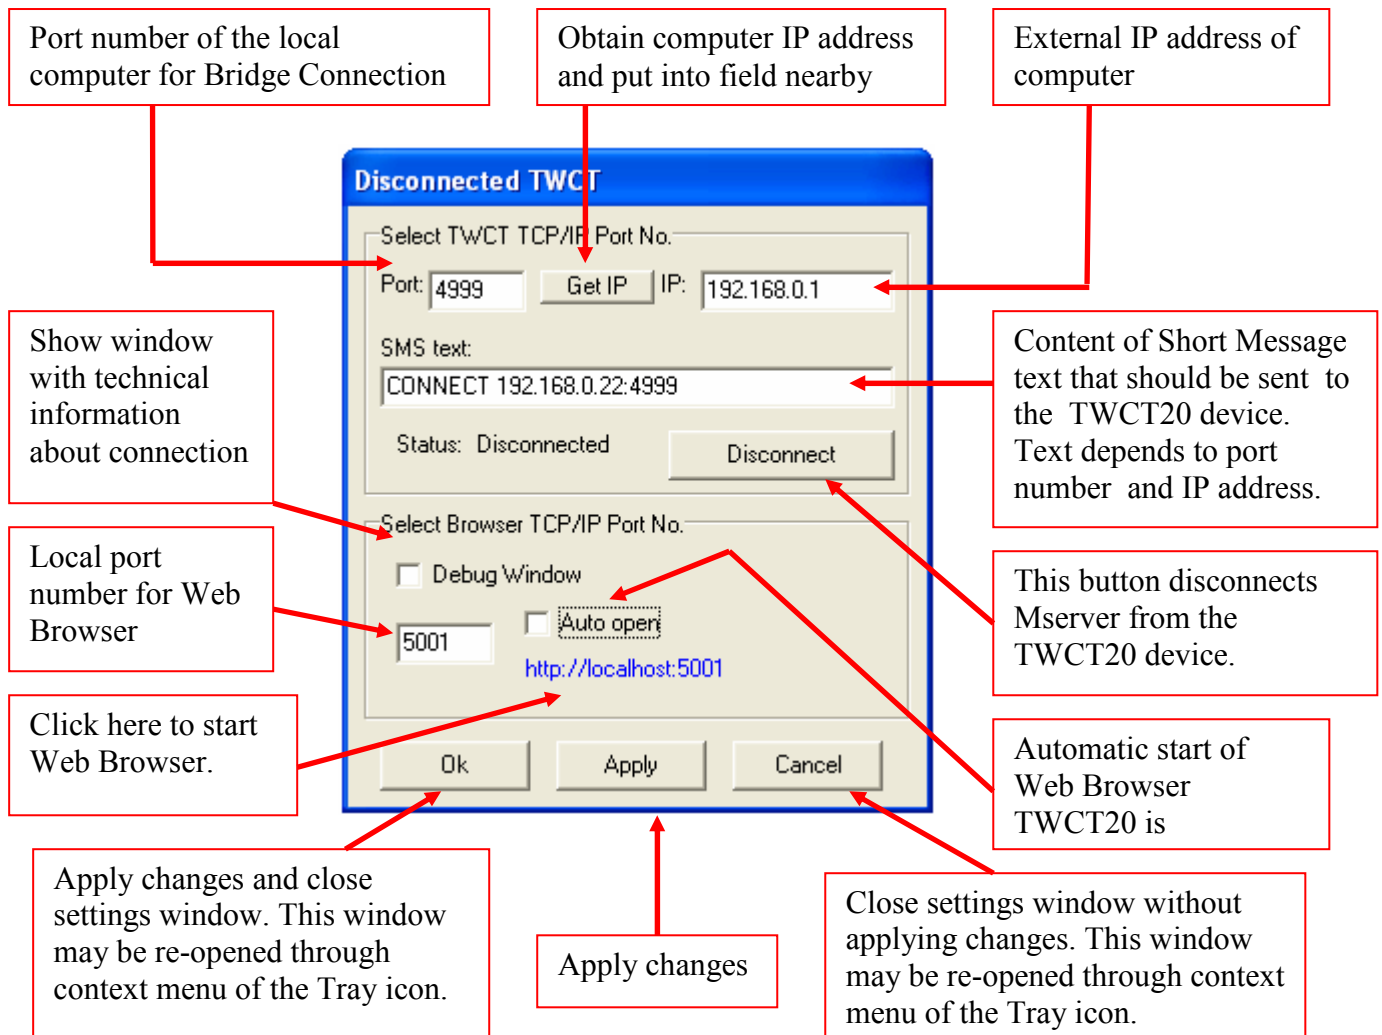

Figure 7.3.5 MServer software
2. Run MServer program from Start/Programs/Teltonika/TWCT20 directory as Server program placed. MServer Settings window (see the **Figure 7.3.5**) and Tray picture  will appear. Short Message with text "CONNECT x.x.x.x.:PortNo" is sent to TWCT20 device's phone number. Here x.x.x.x. – external IP address of the computer and PortNo – port number. TWCT20 will try to connect to specified IP address and port number once.